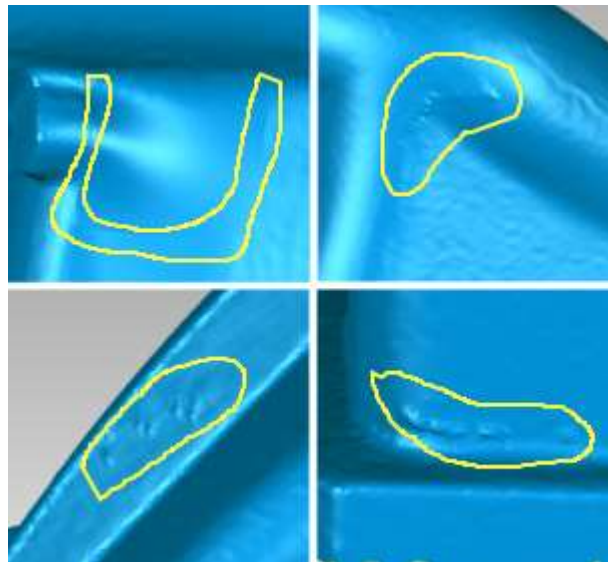

Figure 98
3. Place your cursor over one of the rough areas shown in **Figure 98**, press and hold the **LMB**. A circular cursor will appear, indicating smoothing is active. Move the cursor back and forth over the areas as if you were rubbing your thumb over a clay model. Smooth as necessary.